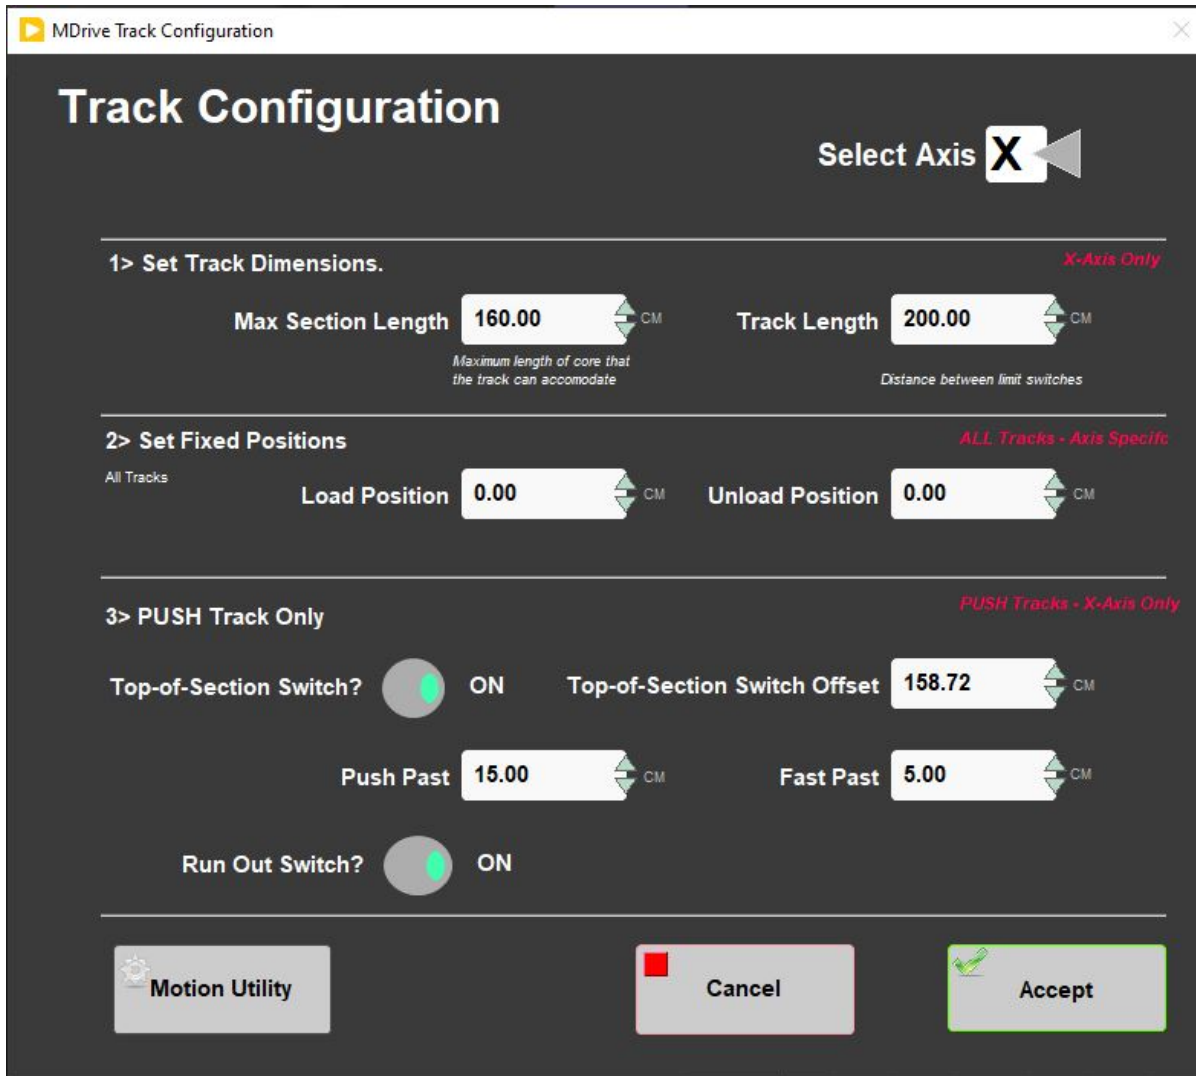

Figure 57. XMSL Fixed Positions Window
In this window the user may define fixed track locations used by IMS motion control. For the XMSL, make sure to use these value unless there has been a physical change to the system (Figure 57).
- Click the **Motion Utility** button to open the Motion Utility window (Figure 57) and test the settings.